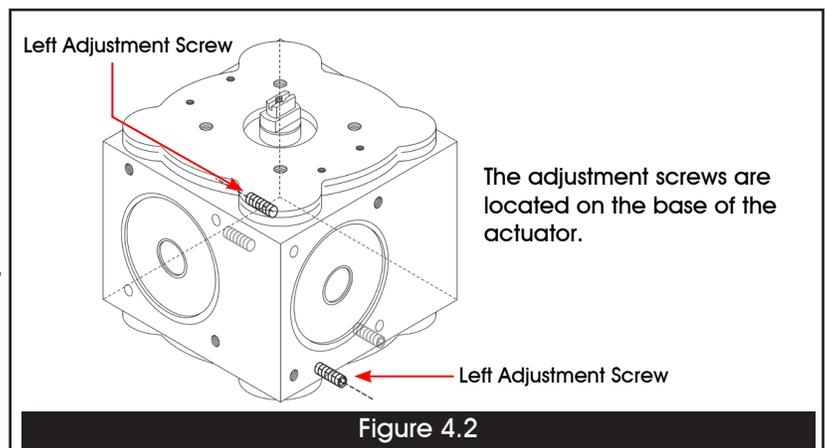

Figure 4.2
1. Remove the left of each Adjustment Screws (#18) 1/4" (6-10mm) outward (Figure 4.2). This will allow the stop to rotate pass the 90° limit so the pistons can come out.